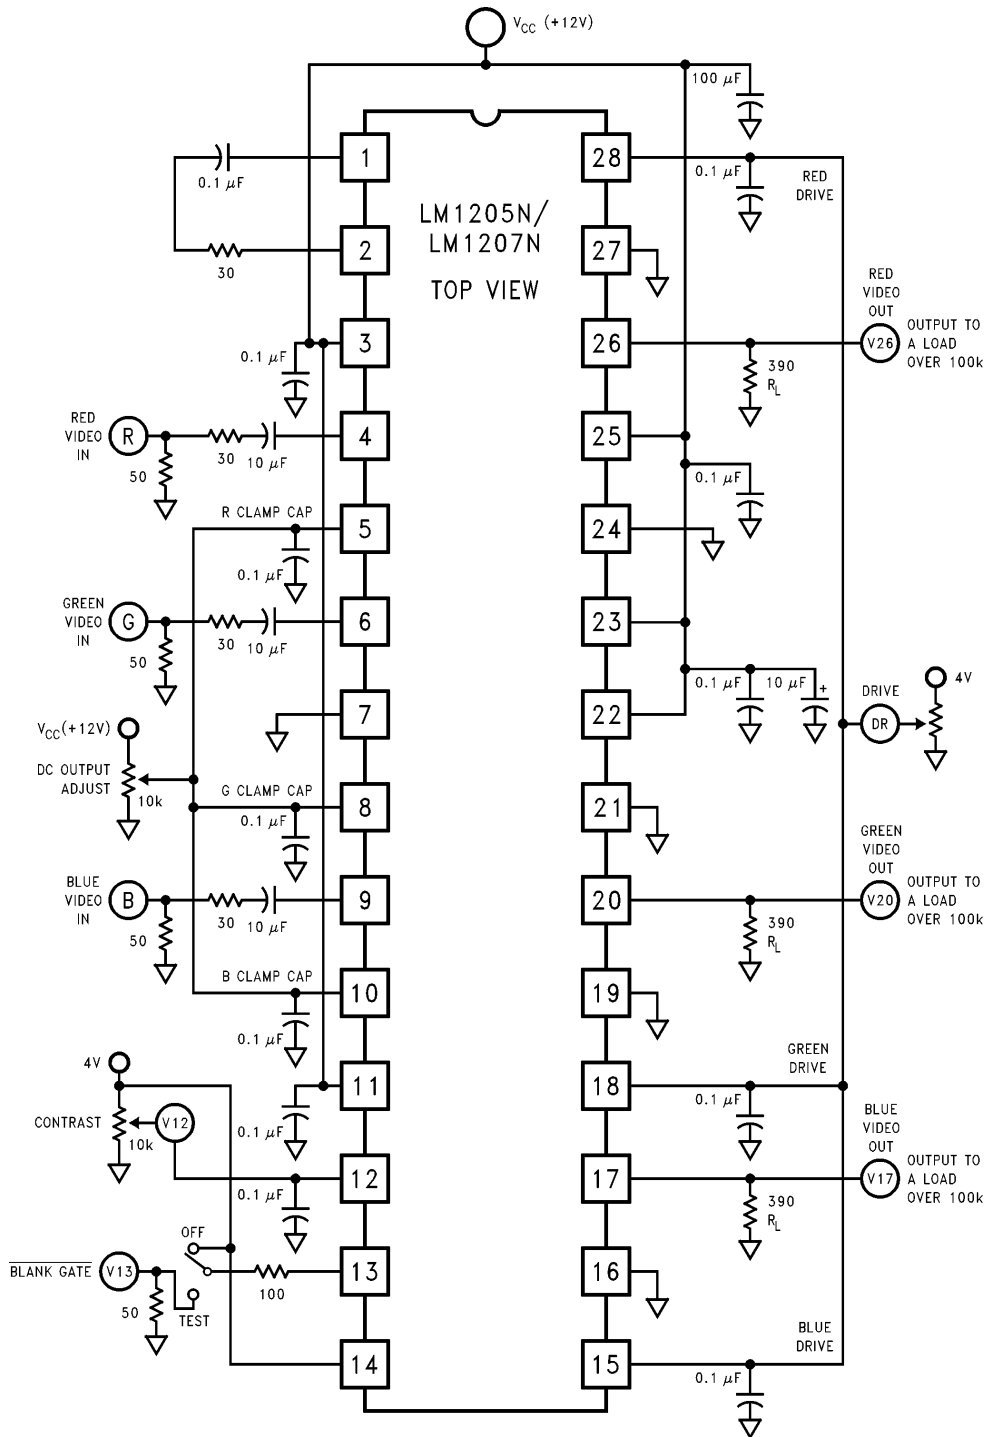

FIGURE 3. LM1205N/LM1207N AC Test Circuit
**AC Electrical Characteristics** See AC Test Circuit (Figure 3),  $T_A = 25^\circ\text{C}$ ;  $V_{CC1} = V_{CC2} = 12\text{V}$ . Manually adjust Video Output pins 17, 20, and 26 to 4V DC for the AC test unless otherwise stated. (Note 14)